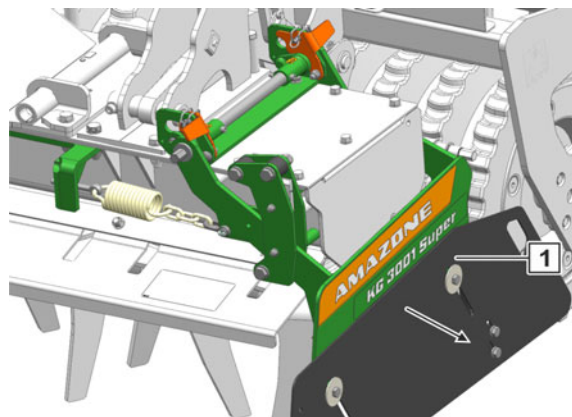

Fig. 145
- The side plate (Fig. 145/1) is fixed in the outer position.